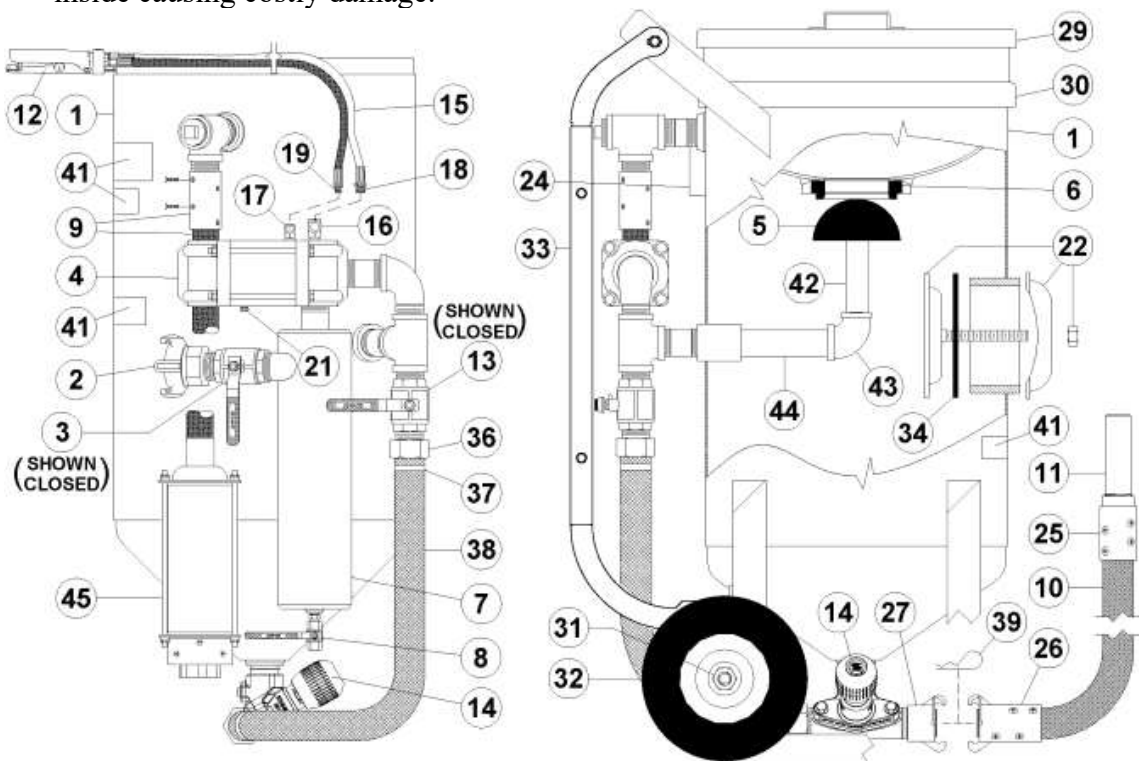

Figure 7.3 – MV3 Valve Abrasive Blaster with pneumatic blast controls
7.3 Ending the Blast Operation (See Figure 7.3)
- 7.3.1. Close the air inlet ball valve (#3). The ball valve is closed when the handle is fully turned to the position shown in Figure 7.3 (handle perpendicular to body). The handle tab will bottom against the ball valve body in the closed position.